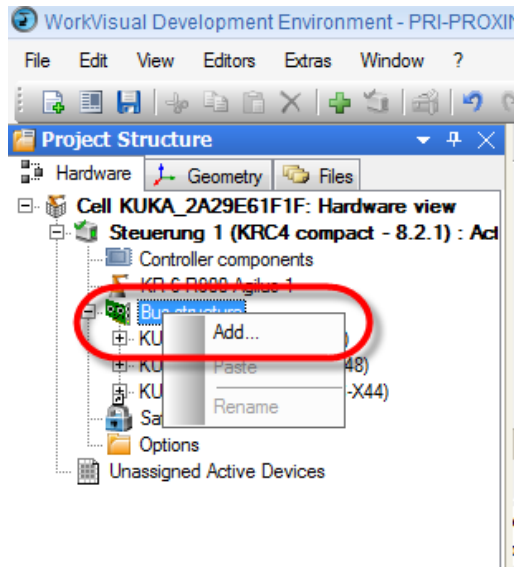

Figure 14.
1. Specify Ethernet/IP protocol by right clicking on *Bus Structure*; the Project Structure popup shown in Figure 14 appears.